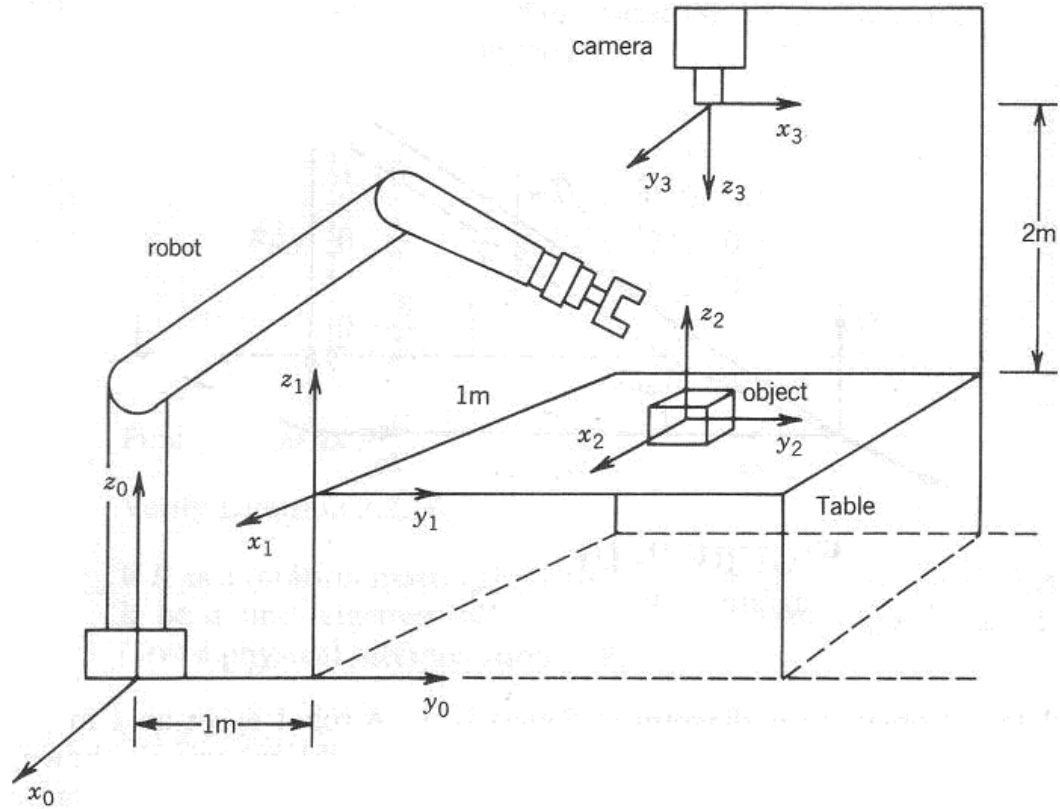

Figure 2:
- i. Consider Figure 2. A robot is set up 1m away from a table, which is 1m² on top, and 1m high. A cube measuring 20cm on each side is centered on the table. A camera is placed directly above the center of the cube, 2m above the table. The robot, table, object, and camera each have a coordinate frame as shown. Find the homogenous transformation describing all of these frames with respect to the 0th (robot's) frame.
- v. The robot moves the object from its position in Figure 2 as follows: It is first rotated about the z_2 axis by $+25^\circ$ then moved along the (current) x_2 axis by 6cm and finally rotated by $+45^\circ$ about the current y_2 axis. In what direction is the final z_2 axis pointing as seen from the camera frame (Frame 3)?